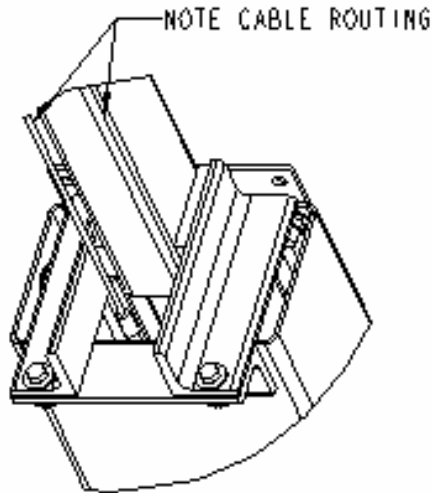

Figure 13
- B. One end of each cable should already be attached to each carriage. Feed the other end of the cable up behind the mainside hose and through the top of the leg as shown, Figure 13,